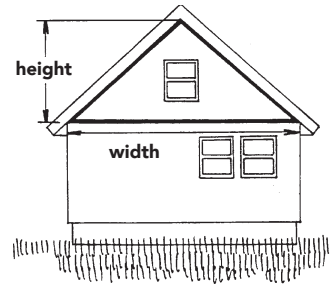

Figure 10. Gable areas
- Total all of the measurements for the areas to be sided. Windows and doors are not usually deducted. Including them will provide an allowance factor for waste. If the windows and doors are extremely large (such as a garage or sliding glass doors), some deductions can be made (Figures 10–12).